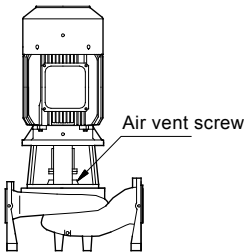

Fig. 4 Air vent screw
1. Close the discharge isolating valve and loosen the air vent screw in the motor stool, see fig. 4.
3. Vent the pump during starting by loosening the air vent screw in the motor stool until a steady stream of liquid runs out of the vent hole, see fig. 4.